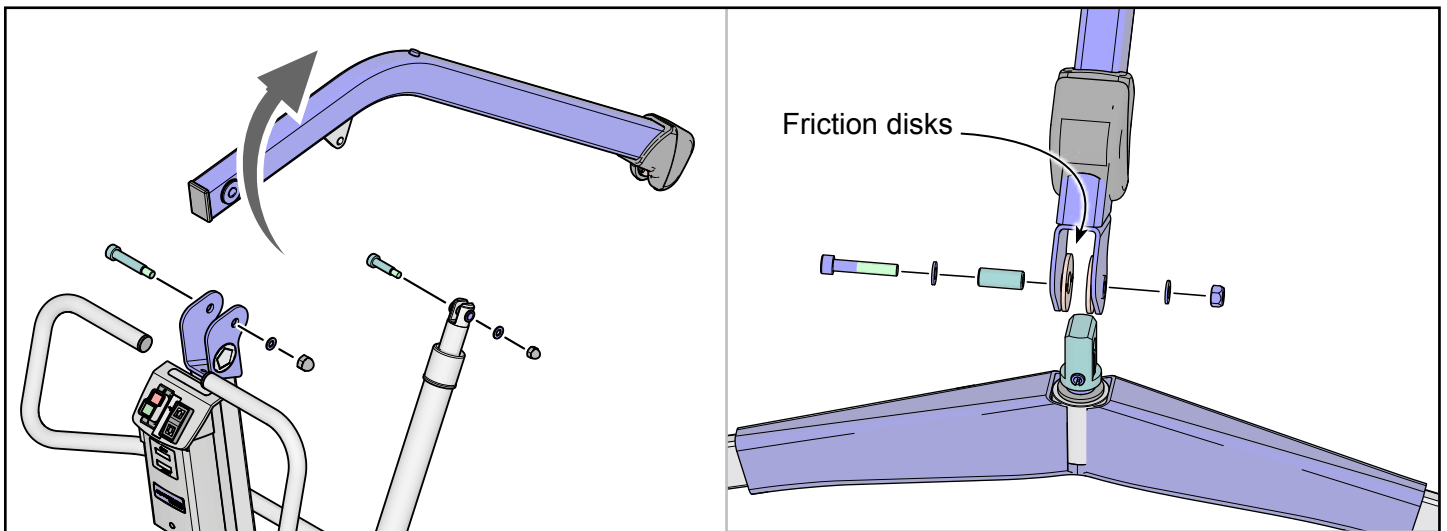

Fig. 28
7. Reinstall the 2-hook spreader bar or the flat DPS. Make sure that the friction discs are in place (see "Fig. 28").